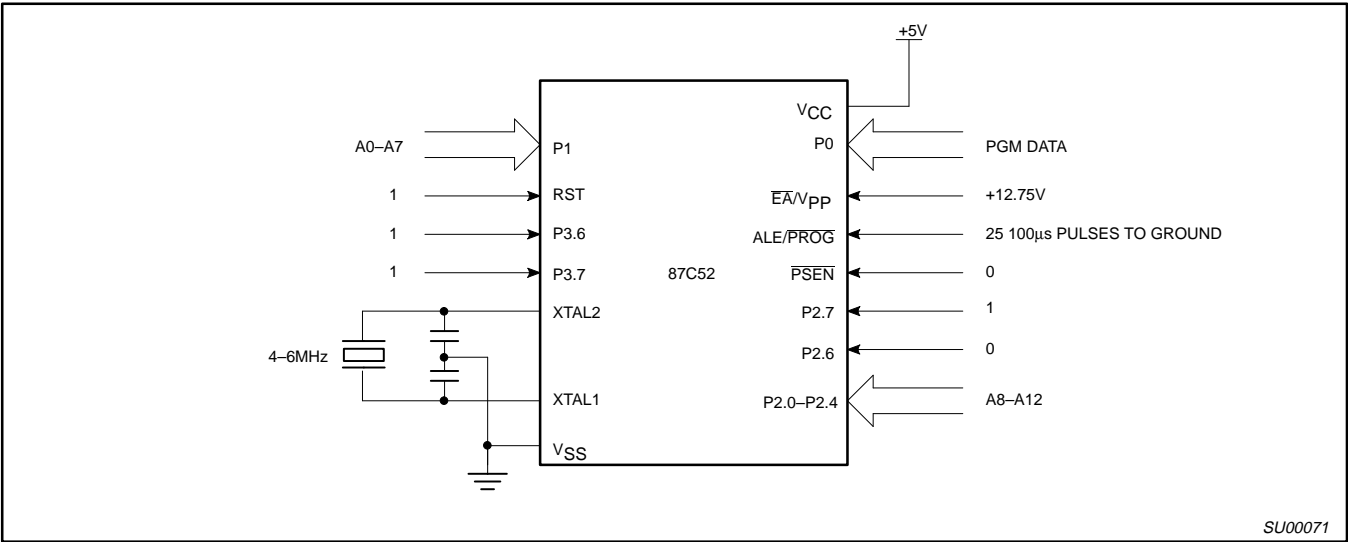
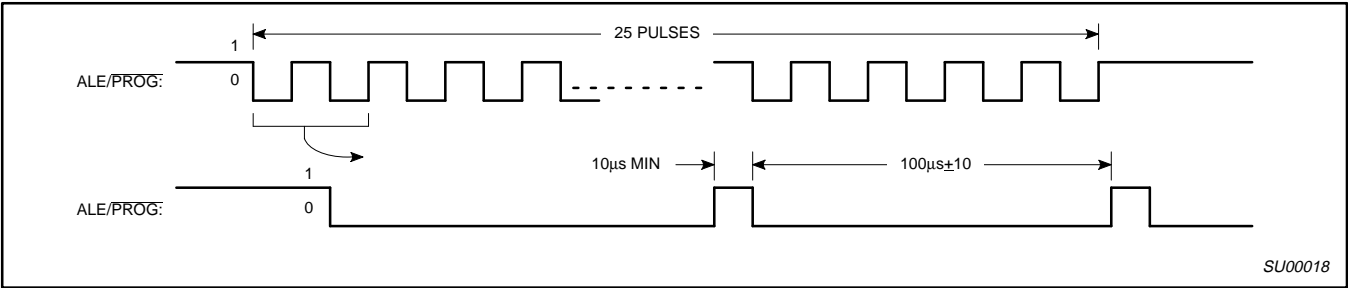
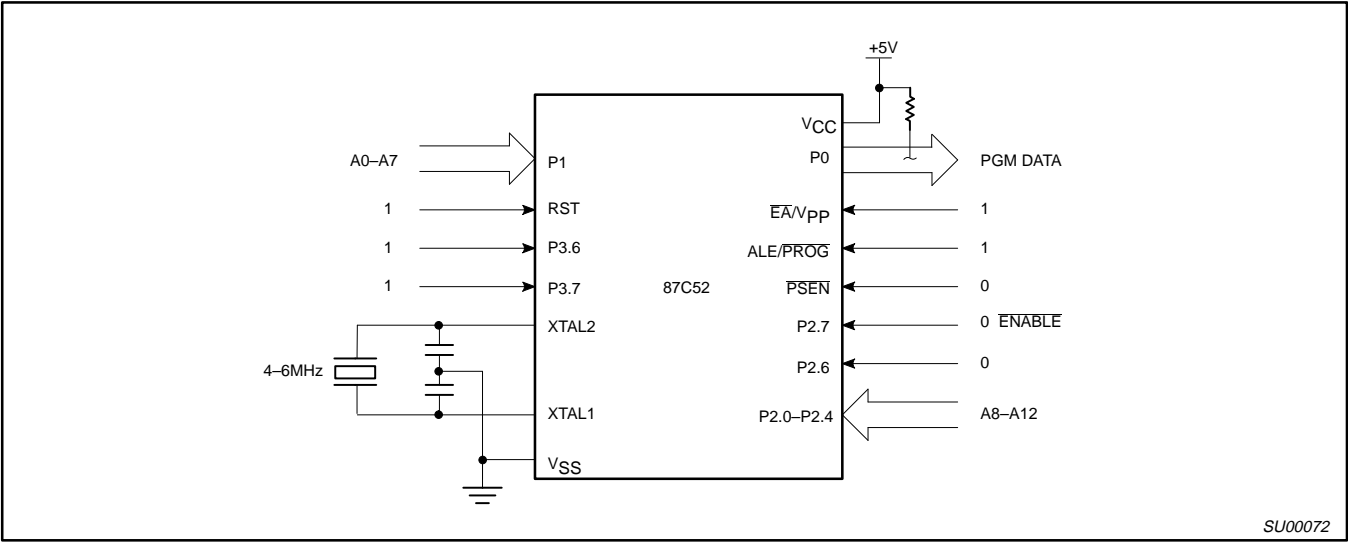

Figure 17. Programming Configuration
Figure 18. PROG Waveform
Figure 19. Program Verification
Table 6 shows the logic levels for reading the signature byte, and for programming the program memory, the encryption table, and the security bits. The circuit configuration and waveforms for quick-pulse programming are shown in Figures 17 and 18. Figure 19 shows the circuit configuration for normal program memory verification.
The setup for microcontroller quick-pulse programming is shown in Figure 17. Note that the 87C52 is running with a 4 to 6MHz oscillator. The reason the oscillator needs to be running is that the device is executing internal address and program data transfers.
The address of the EPROM location to be programmed is applied to ports 1 and 2, as shown in Figure 17. The code byte to be programmed into that location is applied to port 0. RST,  $\overline{PSEN}$  and pins of ports 2 and 3 specified in Table 6 are held at the 'Program Code Data' levels indicated in Table 6. The ALE/PROG is pulsed low 25 times as shown in Figure 18.
If security bit 2 has not been programmed, the on-chip program memory can be read out for program verification. The address of the program memory locations to be read is applied to ports 1 and 2 as shown in Figure 19. The other pins are held at the 'Verify Code Data' levels indicated in Table 6. The contents of the address location will be emitted on port 0. External pull-ups are required on port 0 for this operation.
- \* FOR PROGRAMMING VERIFICATION SEE FIGURE 17.
FOR VERIFICATION CONDITIONS SEE FIGURE 19.